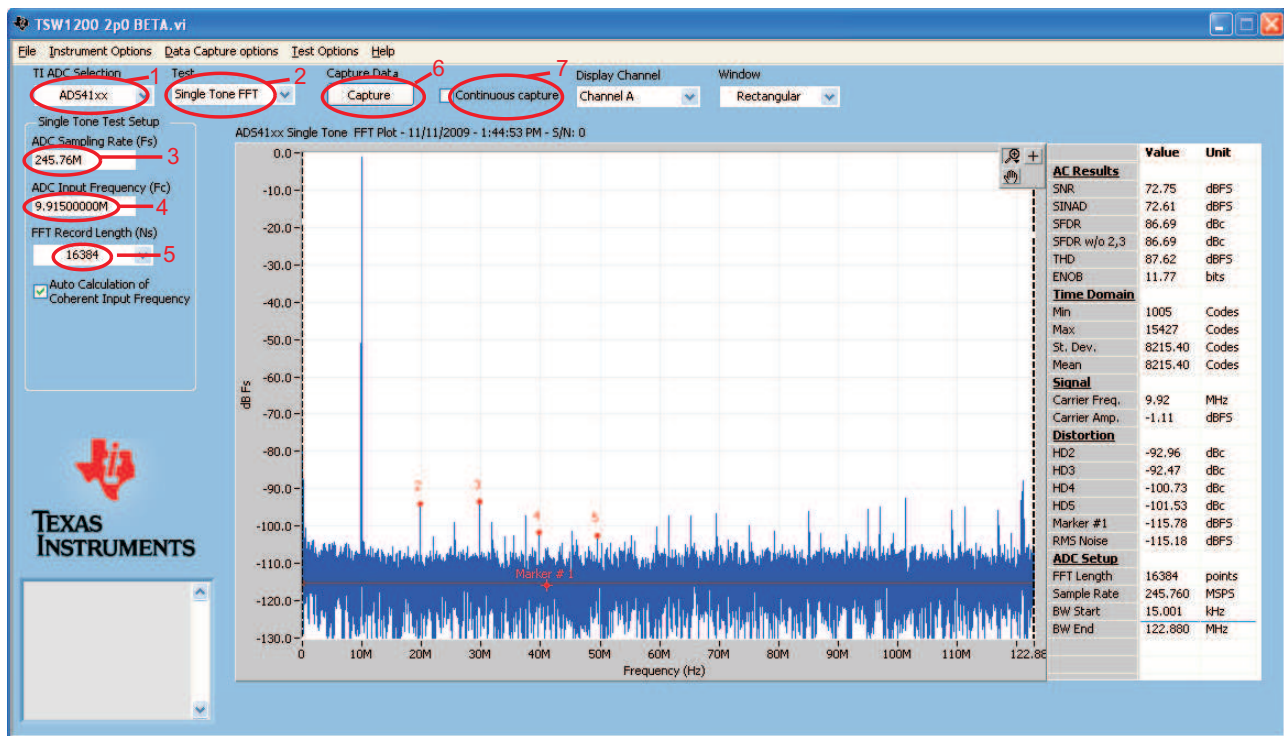

Figure 9. TSW1200 GUI Introduction
- Configure the TSW1200 (see Figure 9).